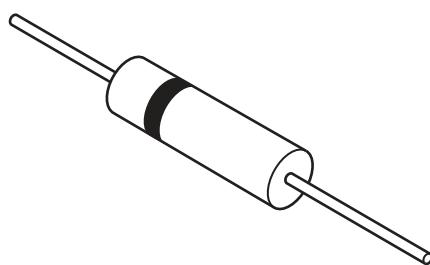

Fig. 15
- (ii) Fig. 15 shows component **D1**.